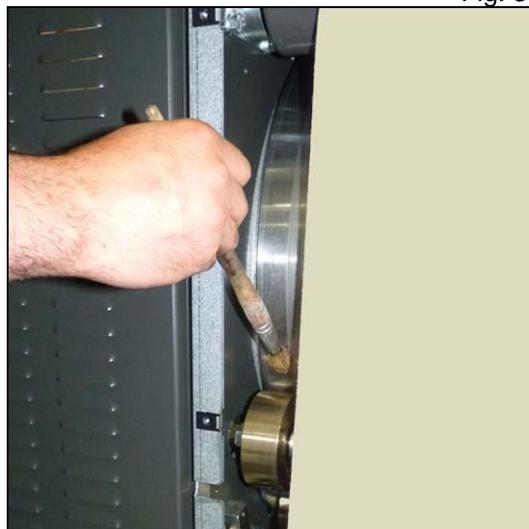

Fig. 3.8
- Turn the roll using the manually operated handle (see Section 10.1) and using a brush spread a layer of oil on the area at both ends of the roll in contact with the wheels (Fig. 3.8).